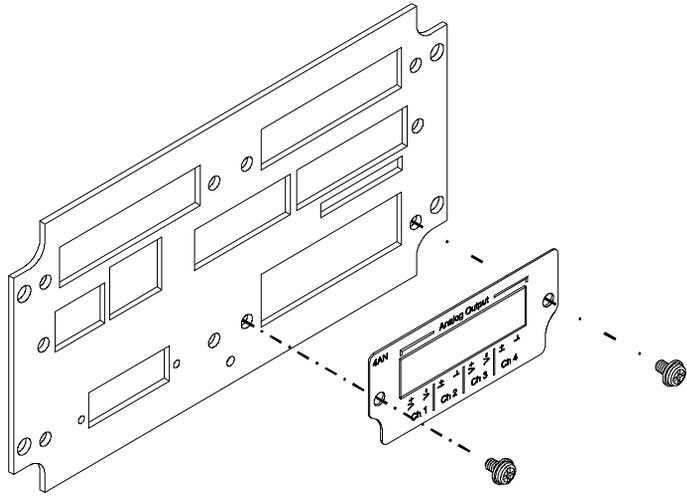

FIG. 22 INSTALLING THE ANALOG OUTPUT LABEL (-4ANA)
- Step 4. Use the four (2) pan head screws (4-40 x .25") to fasten the standoffs to the Main Controller Board.
- Step 8. Use the two (2) pan head screws (4-40 x .25") to fasten the rear panel to the card assembly. (See Figs. 22 & 23)